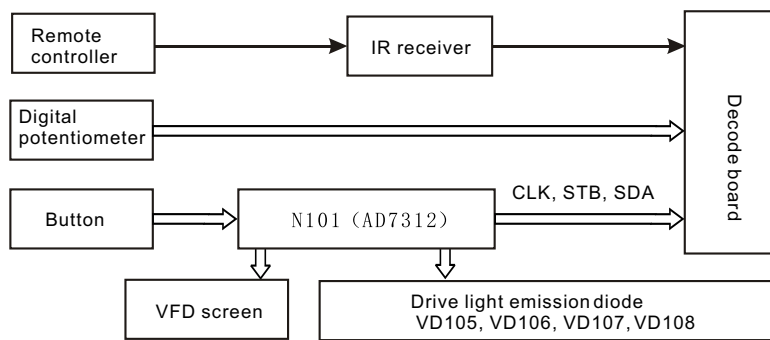

Figure 3.2.11.1 Control panel components block diagram
1. Control panel components block diagram is shown as the following figure 3.2.11.1: